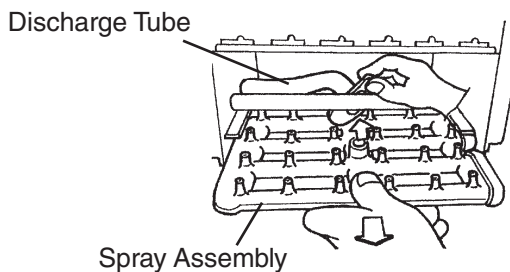

**Fig. 38**
- 5) Spread out the tabs to unlock the water tank, then slide it out. See Fig. 38.